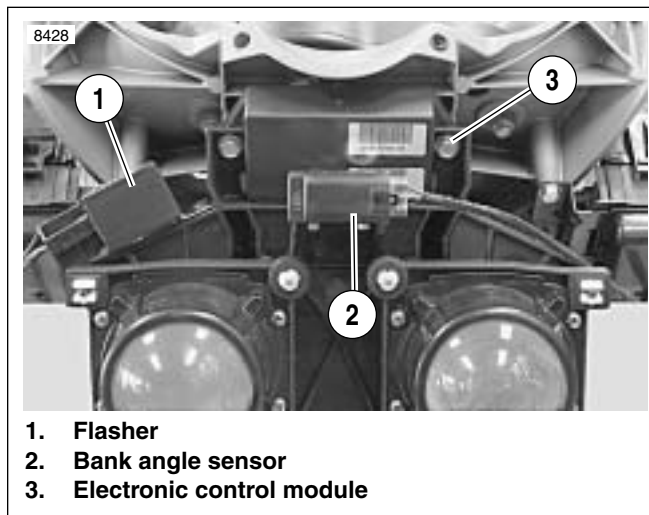
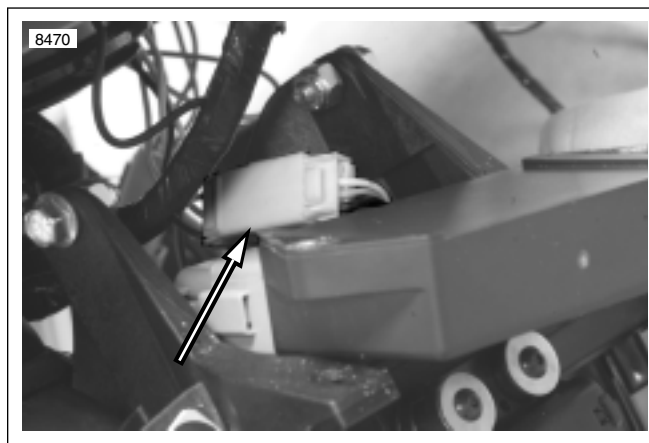
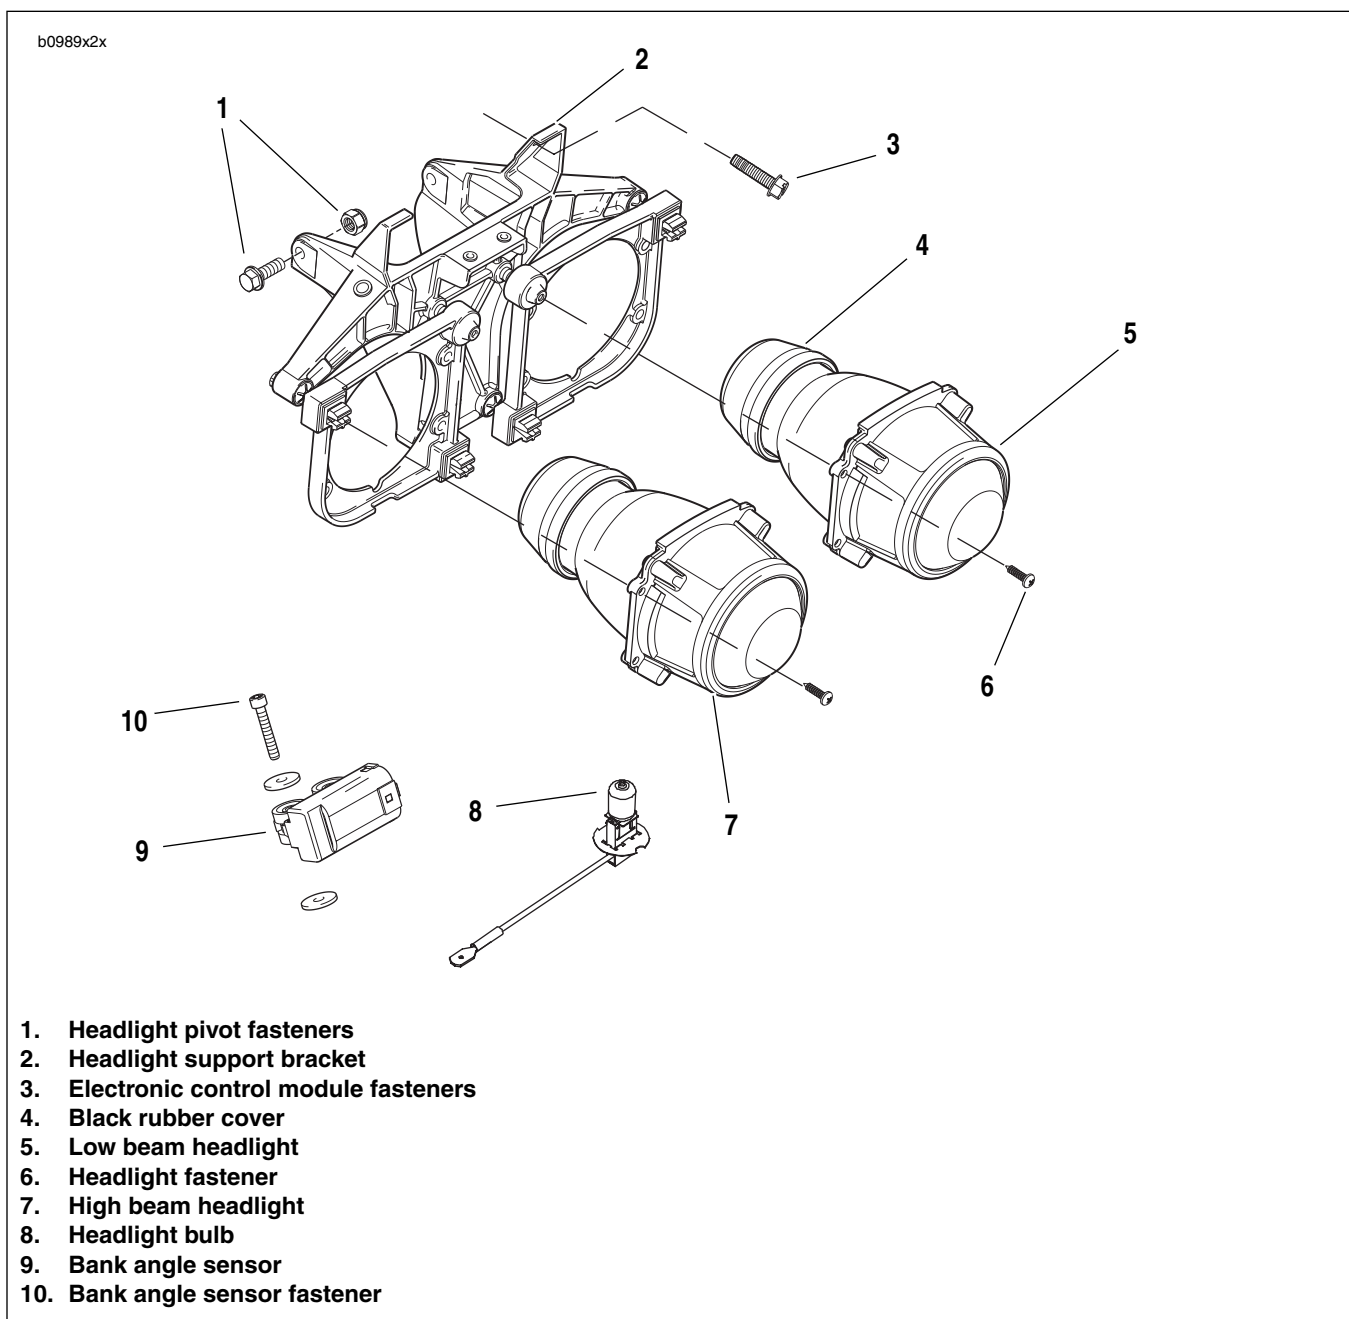

Figure 2-102. Headlight Support Bracket
Figure 2-103. Headlight Connector
Figure 2-104. Headlight Support Bracket Assembly
4. See Figure 2-102. Disconnect flasher (1) and bank angle sensor (2). Remove electronic control module fasteners (3).
5. See Figure 2-104. Rotate headlamp support bracket.
- a. Loosen headlamp pivot fasteners (1).
- b. Rotate headlight bracket (2) down.
6. See Figure 2-103. Disconnect headlight connection.
8. See Figure 2-104. Remove headlight support bracket (2).
1. See Figure 2-102. Remove bank angle sensor (2).
3. See Figure 2-104. Remove black rubber cover (4) from rear of headlights.
5. Disconnect headlight bulb (8) connector (white) from wire harness.
6. Remove headlights (5, 7) from headlight support bracket (2) by removing headlight fasteners (6).
1. See Figure 2-104. Align headlights (5, 7) into headlight support bracket (2). Tighten headlight fasteners (6) to 20-25 **in lbs** (2.3-2.8 Nm).
2. Connect headlight bulb (8) connector (white) into wire-harness.
4. Install black rubber cover (4).
5. See Figure 2-102. Install bank angle sensor connector case (2). Tighten to 12-36 **in-lbs** (1-4 Nm).
6. Install flasher (1) and tighten to 30-40 **in-lbs** (3-5 Nm).
2. See Figure 2-104. Install headlight pivot fasteners (1) but do not tighten.
4. See Figure 2-103. Attach headlight connector to headlight support bracket.
6. See Figure 2-104. Rotate headlight support bracket up (2) and tighten pivot fasteners (1) to 72-96 **in-lbs** (8-11 Nm).
7. See Figure 2-102. Install electric control module.
- a. Figure 2-104. Align electronic control module and headlight support bracket with fairing support bracket.
- b. Tighten electronic control module fasteners (3) to 72-96 **in-lbs** (8-11 Nm).
8. See Figure 2-102. Connect flasher (1) and bank angle sensor (2).